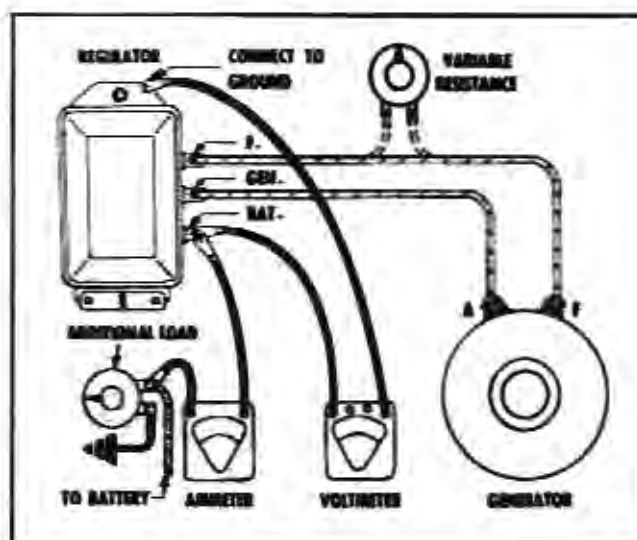

Fig. 11-30 Connections for Checking Current Regulator
1. Connect an ammeter into the charging circuit and connect voltmeter from "BAT" to ground (Fig. 11-30).